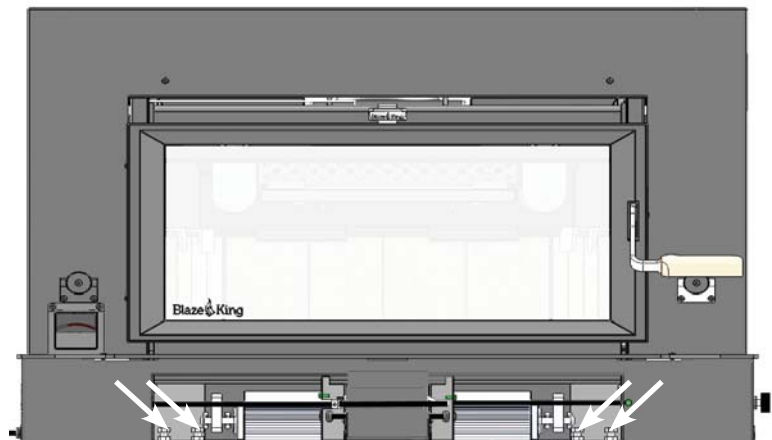

Fig. 14
3. Position stove in fireplace opening. If required, use the four leg leveler bolts to level the firebox. (**Fig. 14**)